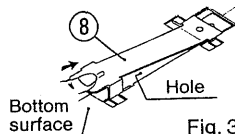

Fig. 3
- (1) Remove the parts attached to the handle on the top surface. Pull cover (a) up to remove it. After doing this, remove M4 screws (b), and then parts (c) and (d) can be removed easily.
- (2) Remove the rubber feet on the bottom surface.
- (3) Remove the seal from the bottom surface to open the hole. Fit the metal stopper (8) as shown in Fig. 3, and push it with your finger in the direction of the arrow. The resulting condition is shown in Fig. 4.